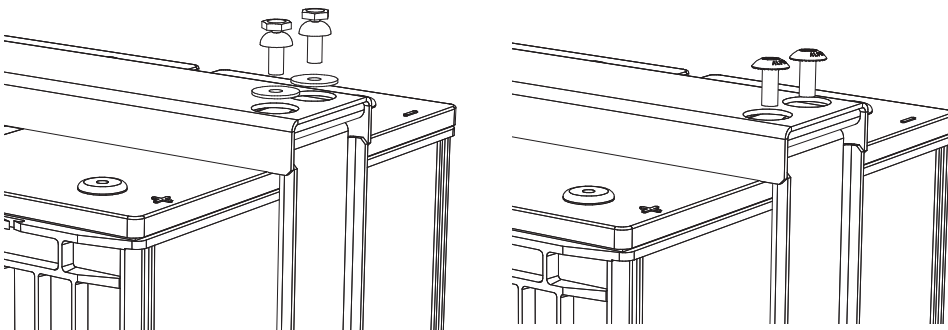

Fig. 4, Inserting Breakaway Bolts (Left) and Security Screws (Right)
- For the breakaway bolt installation, install the four breakaway bolts and flat washers through the top of the bar. Tighten until the head of the bolt snaps off (See Fig. 4).
- For the security screw installation, install the four security screws, torquing to the manufacturer's recommendation Torque Alpha security screws to 13ft-lbs (18.3Nm) (See Fig. 4).